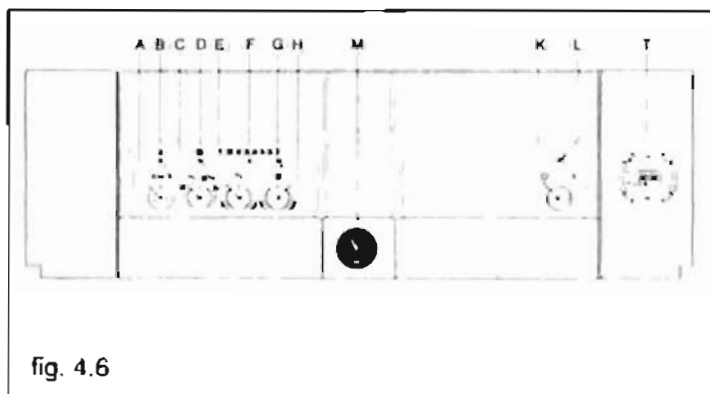

fig. 4.6
- 2 Select heating mode by positioning knob C on III position (see fig. 4.6).
To reset the boiler, open gas cock and depress the reset push button "C" marked with the symbol  (see fig. 4.6).